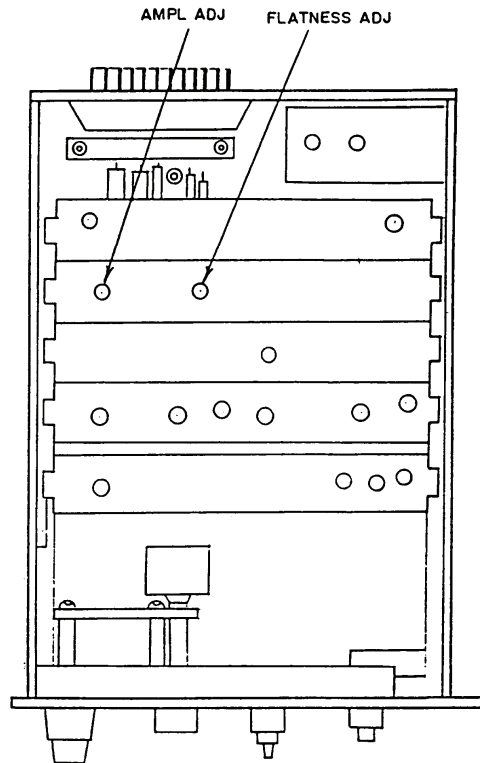

Figure 13. Adjustment locations.
(2) Adjust **AMPL ADJ** (fig. 13) for a multimeter indication of 100 mV rms (R).
(3) Set **FREQUENCY** controls to 300 kHz and adjust **FLATNESS ADJ** control (fig. 13) for an indication between 95 and 105 mV rms. Repeat **a** above for best compromise (R).